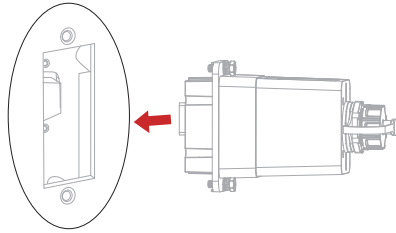

Figure 10b: Insert the Wi-Fi/Ethernet dongle
- Insert Wi-Fi/Ethernet dongle into the port firmly. (Figure 10b)